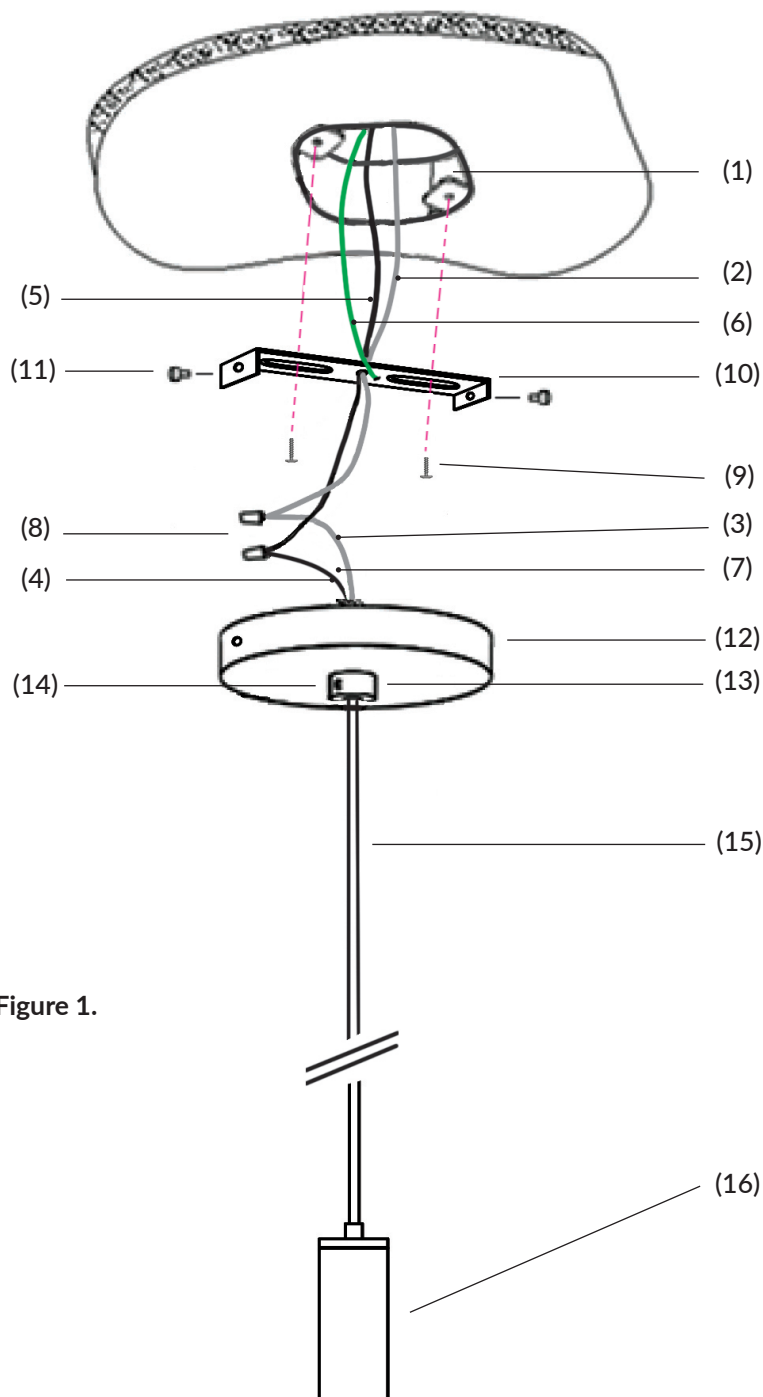

Figure 1.
6. *See Figure 1*. Using the wire connectors(8), connect the white supply wire(2) to the white fixture wire(3); connect the black supply wire(5) to the black fixture wire(4); and connect the house ground wire(6) to the fixture ground wire(7). Tuck the wires back into the junction box(1).
7. To secure the mounting bracket(10) to the junction box(1), align the holes of the mounting bracket(10) with the holes in the junction box(1). Insert and tighten the two mounting screws(9).
8. To secure the canopy(12) to the mounting bracket(10), align the two holes on the sides of the canopy(12) with the holes on the sides of the mounting bracket(10). Then insert and tighten the two bracket screws(11) through the canopy into the bracket(10) to secure everything together.